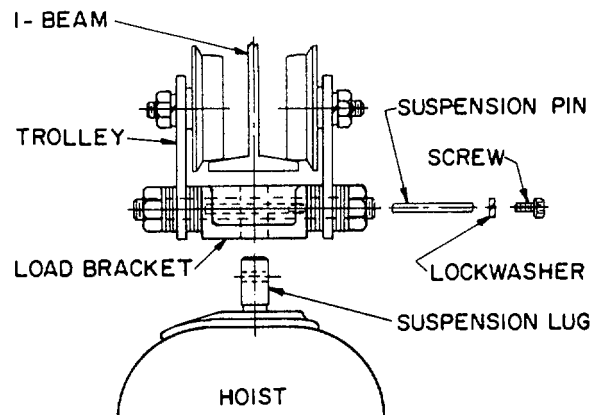

FIGURE 7.
5. With the trolley mounted on the beam, attach the hoist by inserting the suspension lug into the trolley load bracket and inserting the suspension pin through the load bracket and suspension lug as shown in Figure 7.